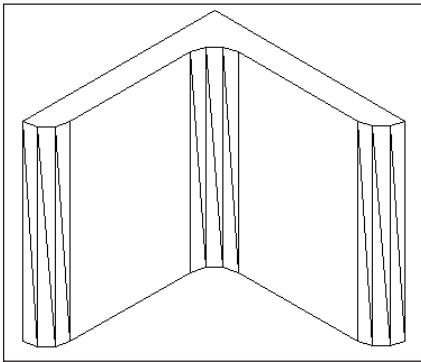

Figure 24-11: The completed mounting angle
7. Save your drawing. It should look like Figure 24-11.